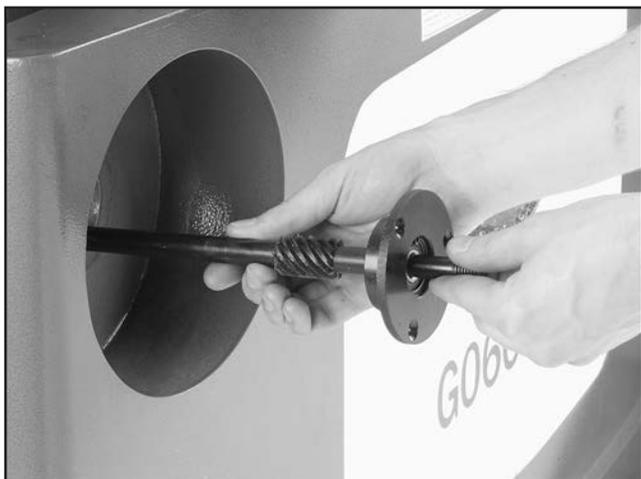

Figure 6. Removing spiral gear shaft.
11. Slide out the spiral gear shaft assembly (**Figure 6**) through the front of the cabinet.